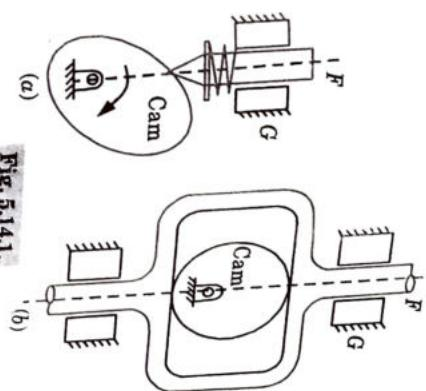

Fig. 5.14.1.
- A cam, in which the follower moves radially from the center of rotation of the cam is known as a radial or a disc cam (Fig. 5.14.1(a) and (b)).